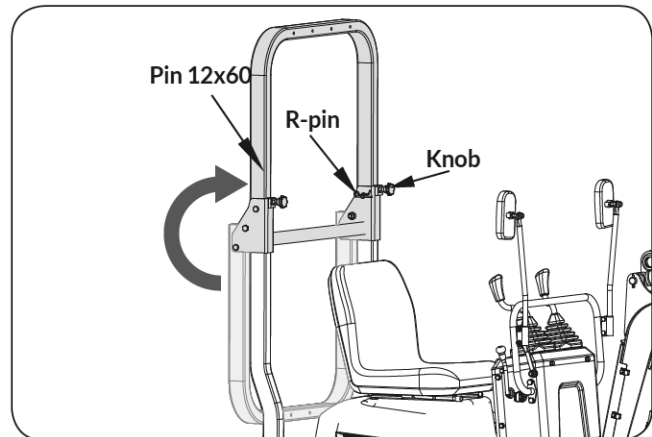

Figure 122
3. Unfold the upper bracket and secure it with 12x60 pins and R-pins. Then tighten the knobs to lock the upper bracket. (See **Figure 122**)